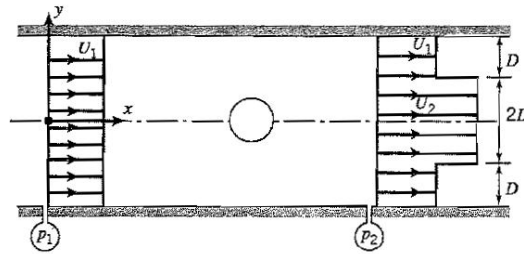

Figure P3.15
3.15 A porous circular cylinder, of diameter D is placed in a uniform rectangular wind tunnel section of height $4D$ and width W , as shown in Figure P3.15. The cylinder spans the width of the tunnel. An air volume flow rate of \dot{q} per unit width issues from the cylinder. The flow field is steady and has a constant density. The pressures p_1 and p_2 are uniform across the entry and exit areas, and the velocity profiles are as shown. A force F is required to hold the cylinder from moving in the x -direction. Find U_2 in terms of \dot{q} , U_1 and D . Then find F .